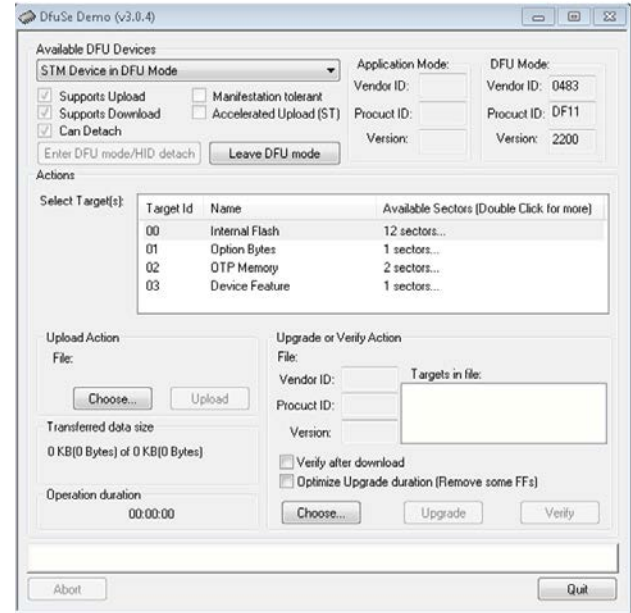

Figure 8. DfuSe Demo Settings
6. Open the **DfuSe Demo** by going to **Start** > **All Programs** > **STMicroelectronics** > **DfuSe** > **DfuSe Demo**. Figure 8 shows the **DfuSe** demo settings at startup.